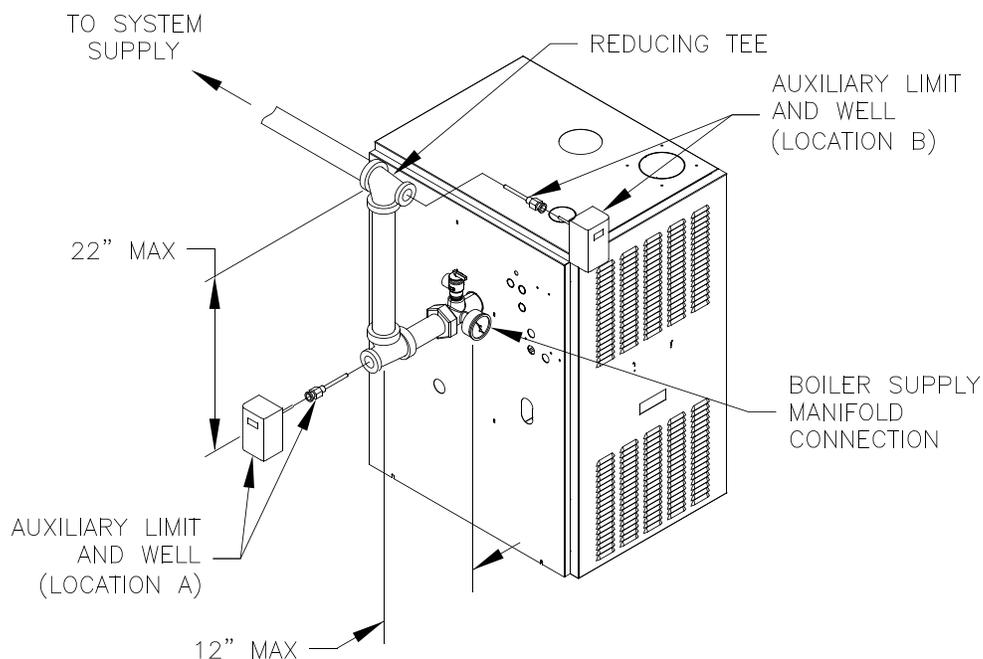

Figure 11: Recommended Auxiliary Limit Location
- The recommended location for an Auxiliary Limit on gas hot water boilers is in the supply piping. See Figure 11 for recommended location.
- When constructing a piping tree to install an Auxiliary Limit select fittings (tees, elbows etc) and nipples to have the same size (NPT) as boiler supply connection. At minimum, 1-1/4" tee with 1/2" branch outlet is required to install the limit well into the supply piping. See Figure 11. **DO NOT REDUCE THE SIZE OF NEAR BOILER SUPPLY FITTINGS AND NIPPLES.**